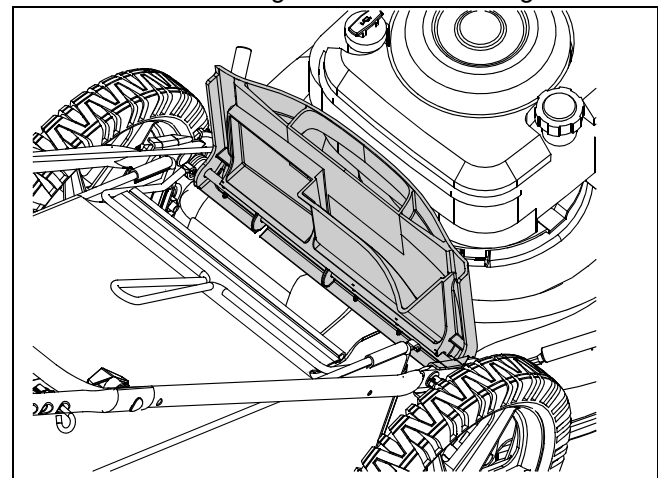

Figure 8
- Lift the rear discharge door and place the grass catcher on the pivot rod. Let go of discharge door so that it rests on the grass catcher. See Figure 8.